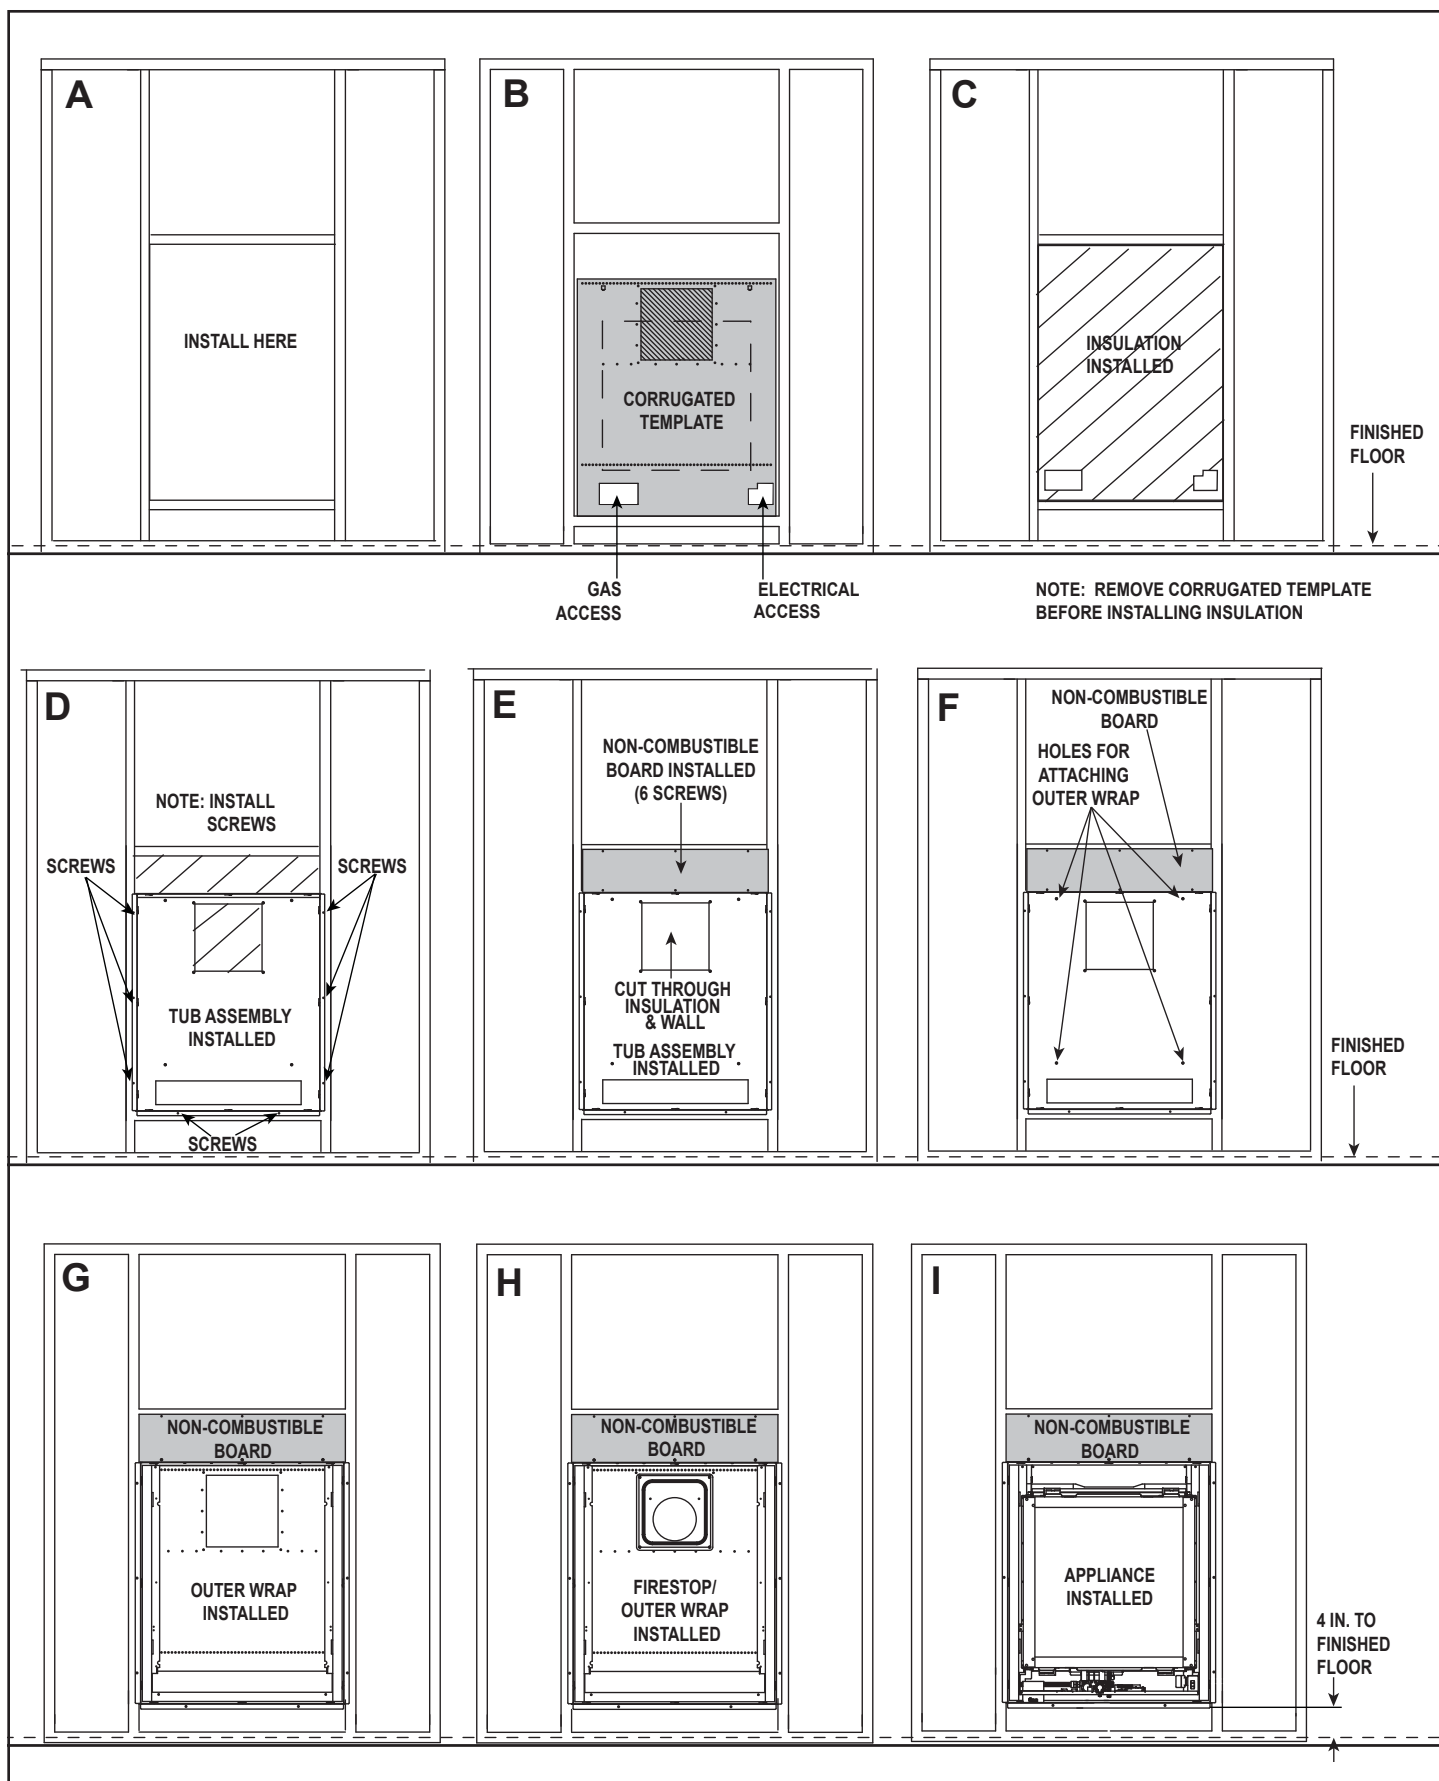
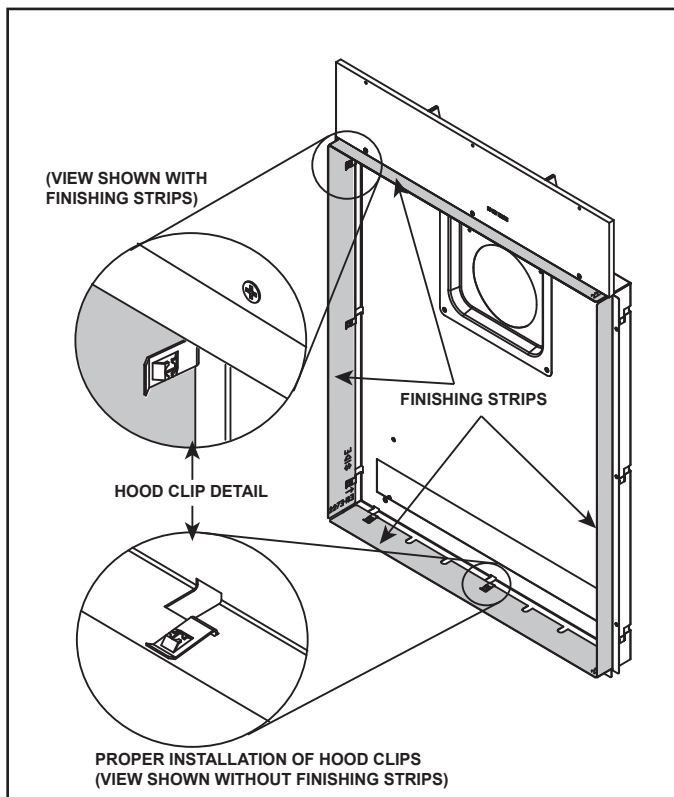
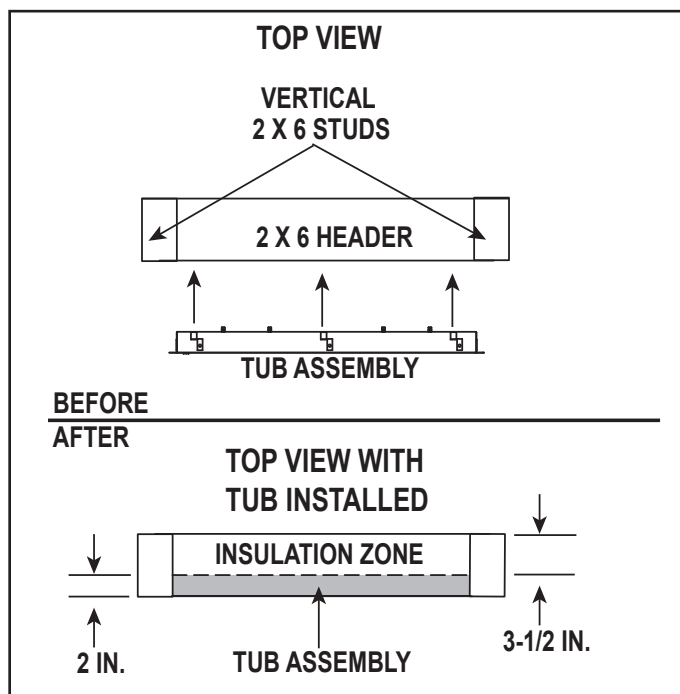

Figure 3. In-Wall Tub Installation
Figure 5. Finishing Strip Attachment & Proper Hood Clip Installation
Figure 6. In-Wall Tub Installation - Top View
4. Insulate wall per local code requirements. Use Thermax where an R19 insulation value is required. See Figure 3 (C) and Figure 6.
5. Install In-Wall Tub as shown in Figure 3 (D). The tub should set on the framing. Verify hood clips are in the correct orientation. See Figure 5. Ensure tub is level. Use eight screws (supplied with In-Wall Kit) to attach the tub to the framing.
6. Install the required non-combustible board (supplied) as shown in Figure 3 (E) using six screws.
7. Cut through insulation and wall as shown in Figure 3(E). Allow space for clearance for the firestop framing discussed in step 11.
10. Install the outer wrap as shown in Figure 3 (F & G) using the four supplied bolts in the threaded holes. Additional screws may be installed to ensure the tub
13. Install finishing strips if applicable. See Figure 5.